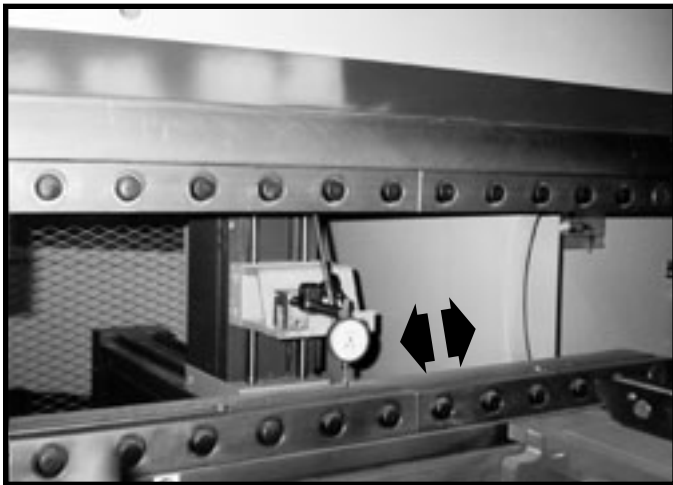

FIGURE 9-27 Z-axis travel left-to-right
1. Z-axis travel should be parallel to the bed top within .004" (.102mm) as shown in Figure 9-27.